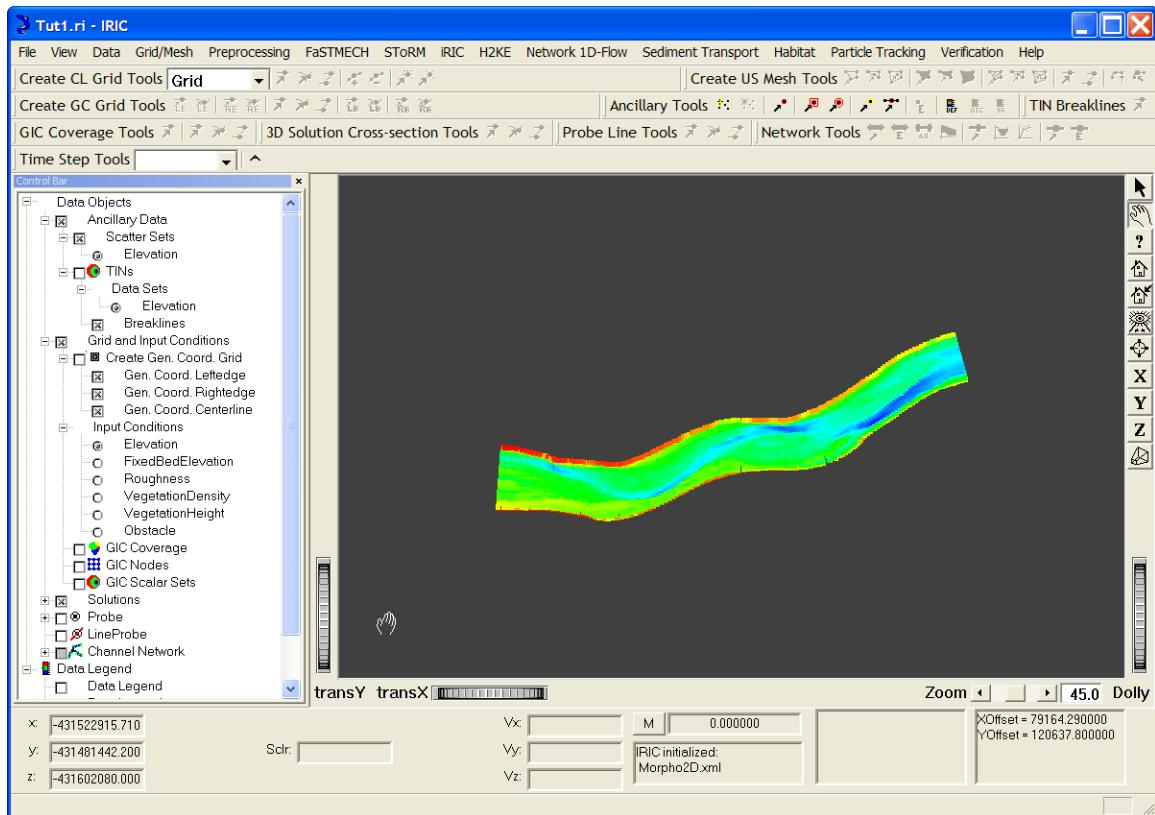

Figure 3.4.1.3 The Ancillary Scatter Set of Elevation that has been centered by selecting the refresh button . Flow is from left to right.
From the menu select **File->Import->Gen. Coord. Grid->.ini Format**. In the Locate and Select Takebayashi Grid File dialog select one of the Xini, Yini or Zbini.dat files. This will import the elevation associated with the grid, create a TIN of the elevation, import the grid geometry, and map the elevation to the grid. A series of dialogs are presented as shown in Figures 3.4.1.1 A&B. In each of these dialogs answer in the affirmative. The result of the import operation can be seen in the Control Bar (Figure 3.4.1.1 C). Notice that **Ancillary Data** branch of the Control Bar contains a **Scatter Set** of Elevation, and a **TIN** of Elevation. In addition, expanding the **Grid and Input Conditions** branch of the Control Bar reveals the branches for the **General Coord. Leftedge**, **General Coord. Leftedge**, and **General Coord. Centerline**. For now, their presence is noted; in the second approach documented later in this tutorial their function will be documented. Also notice that the Input Conditions are loaded with several values (Elevation, FixedBedElevation, Roughness, etc.) as defined in the Morpho2D.xml file (Figure 3.4.1.2).
The Control Bar is used to turn Data Objects, such as **Ancillary Data**, **TINs**, and **Grid and Input Conditions**, etc. On and Off by selecting or deselecting the adjacent checkbox and, where there is an option, to select which value is viewed. For example, selecting the box next to **Ancillary Data / Scatter Sets** will turn the scatter set of Elevation on, to view the entire data set, select the refresh button(on the right side of the iRIC interface which will center the Elevation Scatter Set as shown in Figure 3.4.1.3. The **TIN**, and **Grid and Input Conditions** can also be turned On and Off by selecting the select box next to each respectively.
- To create a new **GIC Coverage / Region** (polygon), select in the GIC Coverage Tools toolbar. Create a polygon similar to the one in Figure 3.4.1.4. Using the left mouse button click to define the location of polygon nodes and press Enter to finish.
Figure 3.4.1.1 A) By default a TIN of the elevation is created. The console window shows the results of that TIN; pressing any key will close the window. B) By default the elevation will be mapped to the imported grid using the TIN of the elevation data. C) The Control Bar indicates the **Data Objects** created on the import of the General Coordinate System Grid.
Figure 3.4.1.2 A piece of the Morpho2D.xml file showing the GridRelatedCondition node that defines the input conditions in the **Grid and Input Conditions** branch of the Control Bar. Note the items are Elevation, Roughness, FixedBedElevation, VegetationDensity ,VegetationHeight and Obstacle all of which have been dynamically loaded into the iRIC modeling interface.
Figure 3.4.1.4 Coverage Region polygon for Roughness. Note that Roughness is the currently selected input. The **Grid and Input Condition** and **GIC Coverage** branches of the Control Bar are both turned on, and under the **GIC Coverage** branch is **Region_0** which represents the user-defined polygon surrounding the grid.
From the menu select **iRIC->Create New Simulation**. In the Save As Dialog type in a name for the simulation (for example, Tut1a). From the menu select **iRIC->Edit Calculation Conditions**. The top level group is the Stage-Discharge Boundary Condition. For both Discharge and Stage we will select the Edit button in the dialog and in the resulting dialog select the Import button. For Discharge select the Discharge1.txt file to import and for the Stage at Downstream select the Stage1.txt file to import. The table in each case will be filled with the values as shown in Figure 3.4.1.5 (B and C). For the remaining Groups enter the values as shown in Figure 3.4.1.5 (D-H).